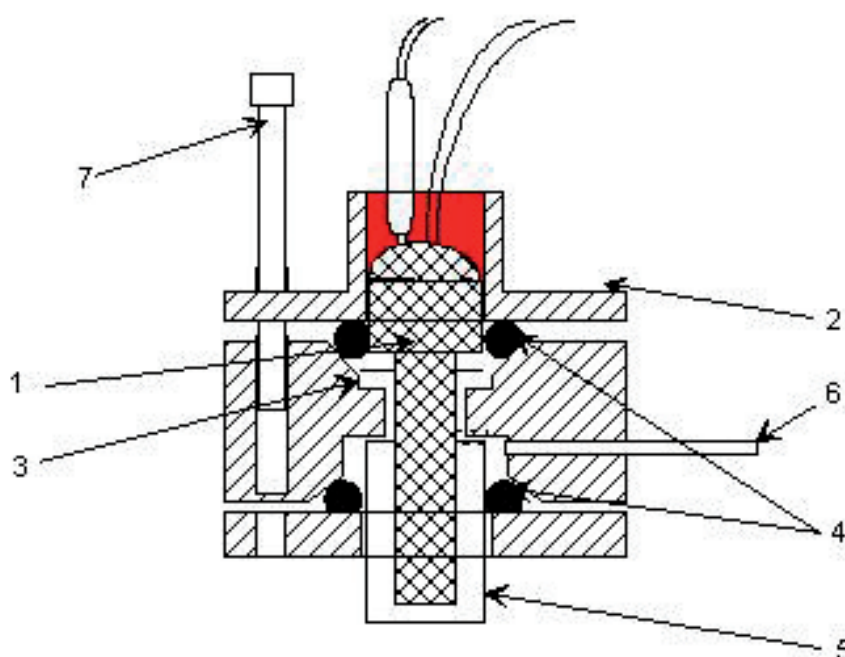

Figure 16 XZR500 MSRS Mounting Diagram
- Connect the MSRS and the cable according to the diagram (*Figure 16*).
- Re-insert the clean sealing head with the new MSRS (Ref 204 011) and new o-rings (Ref 108 006) (**CAUTION: the head of the MSRS (1) has to stop against the bearing of the sealing head body (3).**) (See *Figure 16.*)